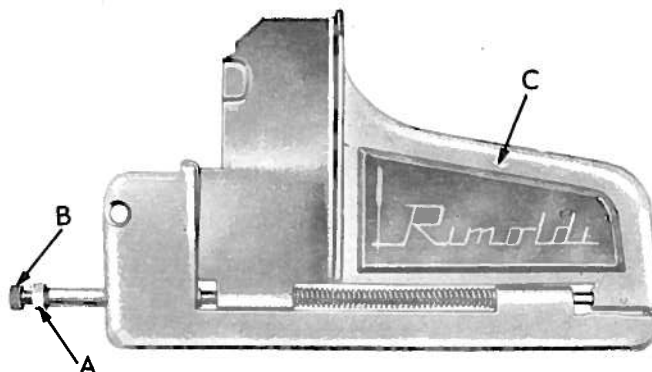

**fig.18**
**e) Locking and adjusting presserfoot holder lever (fig. 18)**